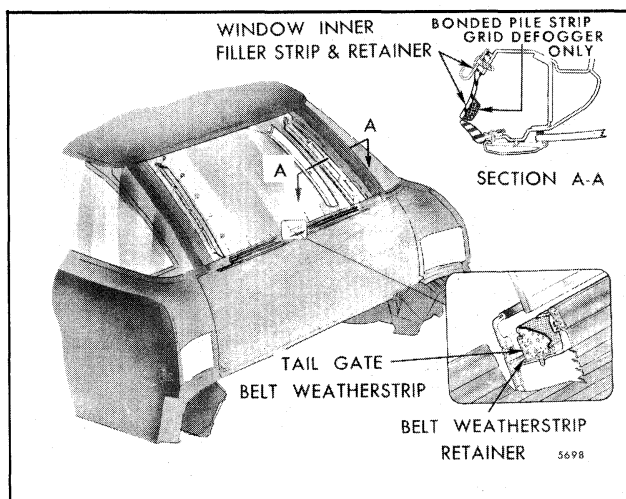

Fig. 7-115-Tailgate Belt Weatherstrip and Window Inner Filler Strip
The tailgate belt weatherstrip is cemented to an adjustable (fore-aft) metal retainer which is fastened to the top of the tailgate by screws (Fig. 7-115). A strip of closed cell nitrile foam tape is positioned between the retainer and the top of the tailgate to prevent water entry beneath the retainer. Approximately 2 inches of belt weatherstrip extends beyond each end of the metal retainer. This section of weatherstrip (each end) is secured directly to the tailgate by cement and a single screw.
tailgate and with flat-bladed tool, carefully remove weatherstrip from its retainer (Fig. 7-115).
and serves to conceal the window supporting hardware (Fig. 7-115). On styles equipped with tailgate window grid defogger option, the lip of the filler strip incorporates a bonded pile strip in the area of glass contact to protect grid defogger lines from abrasion during glass cycling. A metal retainer is positioned
2. Remove screws securing inner filler strip section and remove filler strip (Fig. 7-115, Section A-A).
1. Remove finishing moldings from right and left pillars, from upper section of back body opening and remove upper and right side inner filler strips (Figs. 7-115 and 7-116).